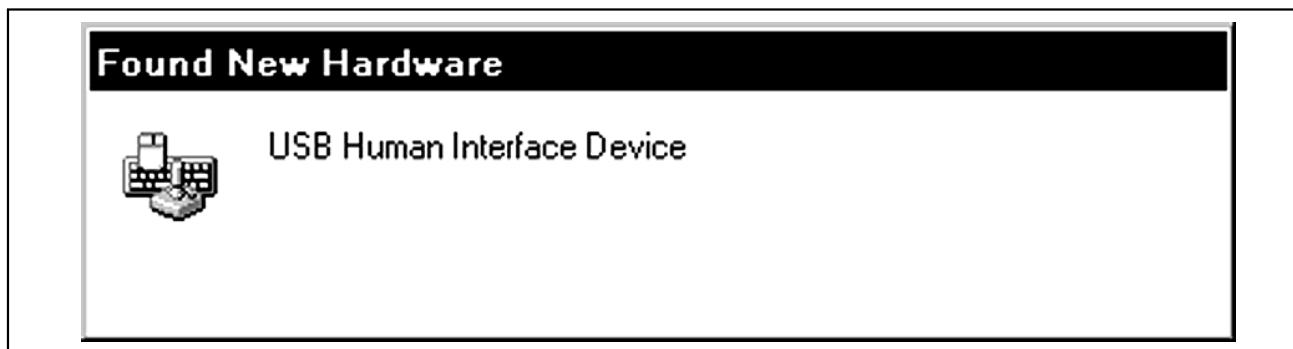

Figure 2. Found New Hardware | USB Human Interface Device Window
- 6) Next, a **Found New Hardware | USB Human Interface Device** appears, as shown in Figure 2. The standard Windows USB HID driver is installed automatically.